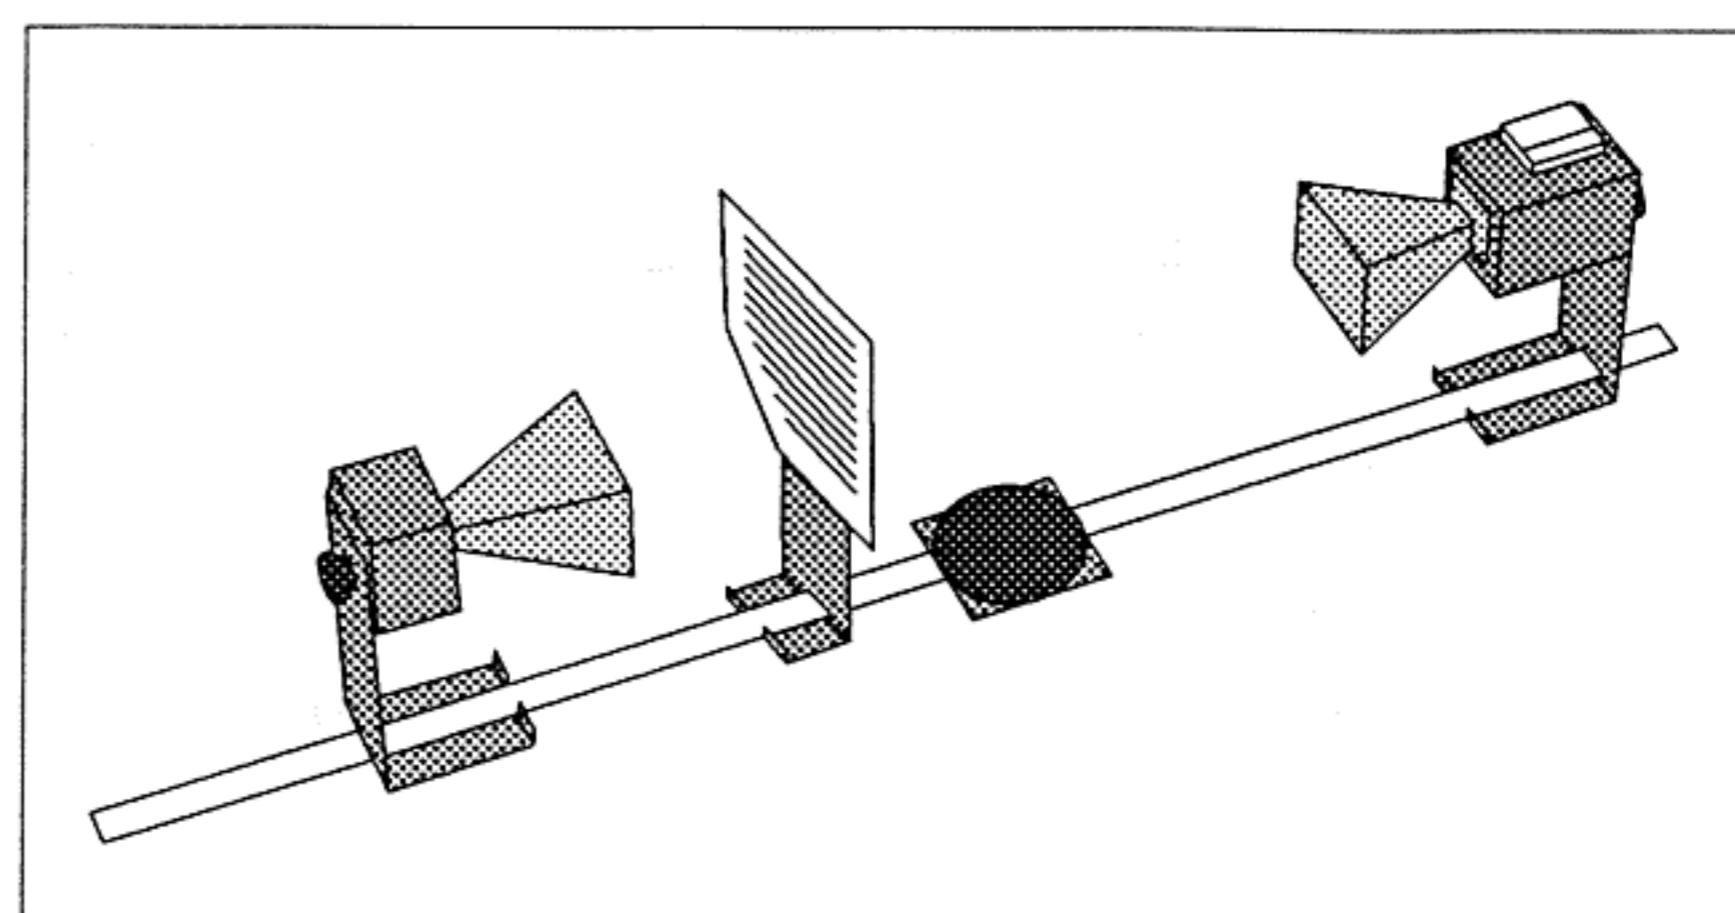

Figure 5.4 Equipment Setup
- ④ Set up the equipment as shown in Figure 5.4. Reset the Receivers angle to 0-degrees (the horns should be oriented as shown with the longer side horizontal).
- ⑤ Record the meter reading when the Polarizer is aligned at 0, 22.5, 45, 67.5 and 90-degrees with respect to the horizontal.
- ⑥ Remove the Polarizer slits. Rotate the Receiver so the axis of its horn is at right angles to that of the Transmitter. Record the meter reading. Then replace the Polarizer slits and record the meter readings with the Polarizer slits horizontal, vertical, and at 45-